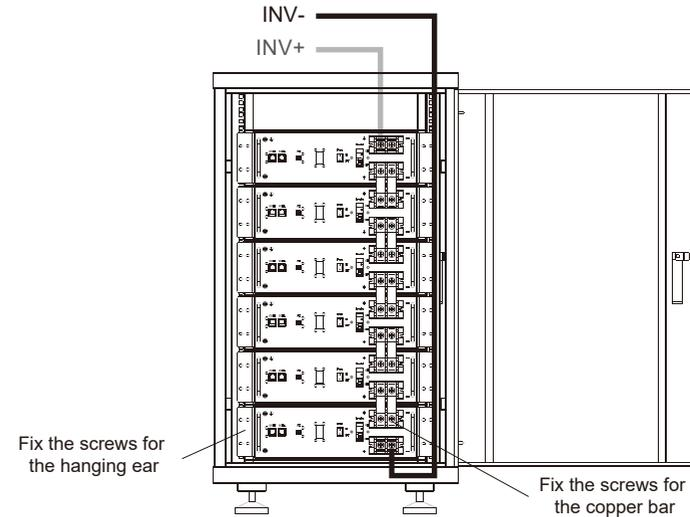

Figure 4 Install battery module & connect copper bar
Step 2: As shown in Figure 4, put the battery into the cabinet, tighten the four-angle screws (M6*12 screw, torque: 5 N.m); and fix the copper bar between the battery modules with 3#cross screwdriver (M8; torque: 12 N.m).